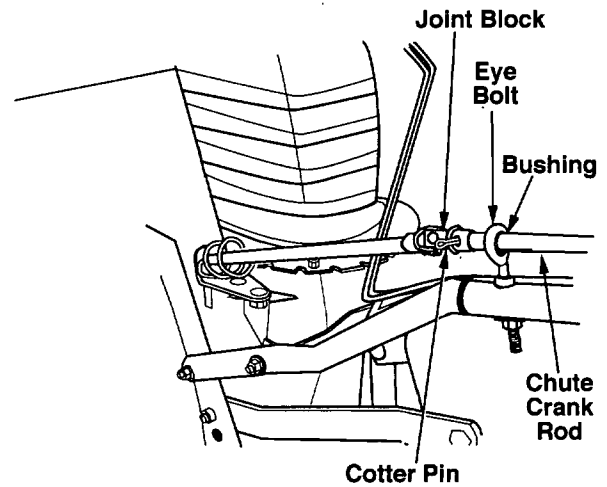

Figure 9
- Insert the chute crank rod (1-8) into the sleeve of the joint block on the chute crank assembly (1-7). Align the holes and secure the rod with the cotter pin (2-17). See Figure 9.